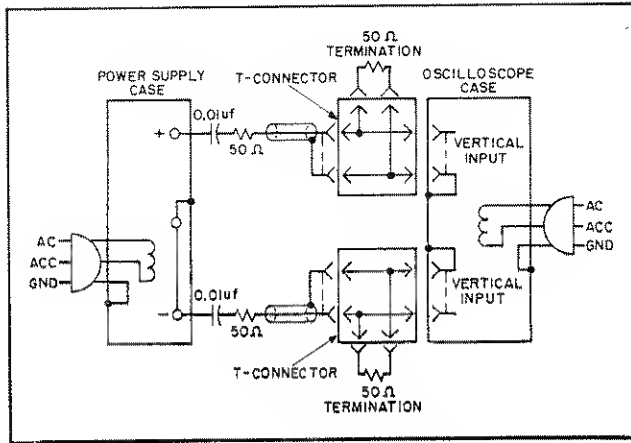

Figure 5-7. CV Noise Spike Test Setup
1. As shown in Figure 5-7, two coax cables, must be substituted for the shielded two-wire cable.
5-30 The circuit of Figure 5-7 can also be used for the normal measurement of low frequency ripple and noise; simply remove the four terminating resistors and the blocking capacitors and substitute a higher gain vertical plug-in in place of the wide-band plug-in required for spike measurements. Notice that with these changes, Figure 5-7 becomes a two-cable version of Figure 5-6C.